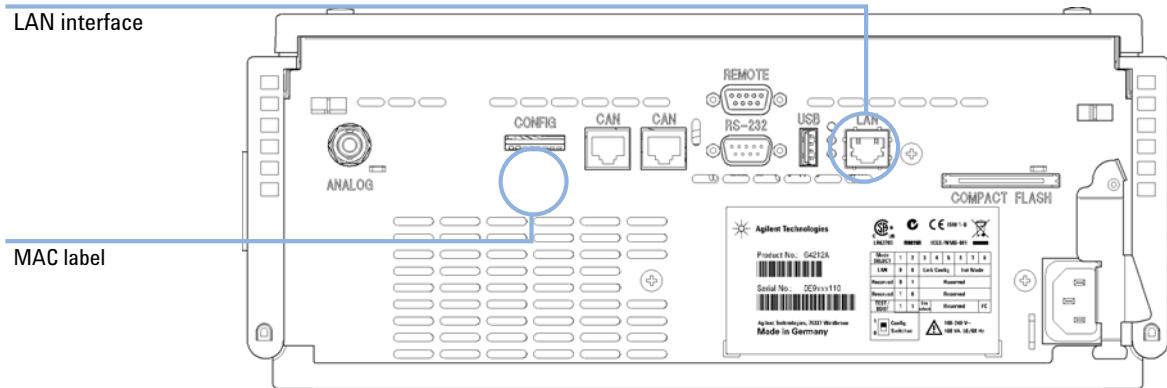

Figure 56 Location of LAN interfaces and MAC label
- 1 Note the MAC (Media Access Control) address for further reference. The MAC or hardware address of the LAN interfaces is a world wide unique identifier. No other network device will have the same hardware address. The MAC address can be found on a label at the rear of the module underneath the configuration switch (see Figure 56 on page 224).
- 2 Connect the instrument's LAN interface (see Figure 56 on page 224) to